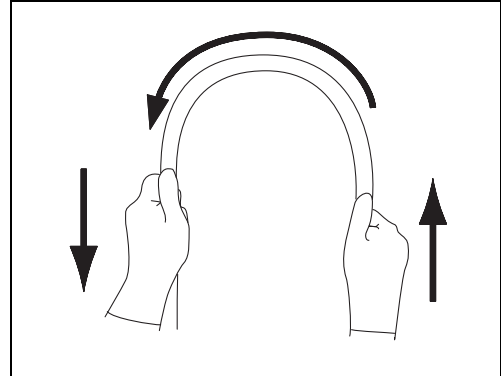

Figure 3.4
- 5** Using both hands, bend the insertion tube of the endoscope into a semicircle. Then, moving your hands as shown by the arrows in Figure 3.4, confirm that the entire insertion tube can be smoothly bent to form a semicircle and that the insertion tube is pliable.